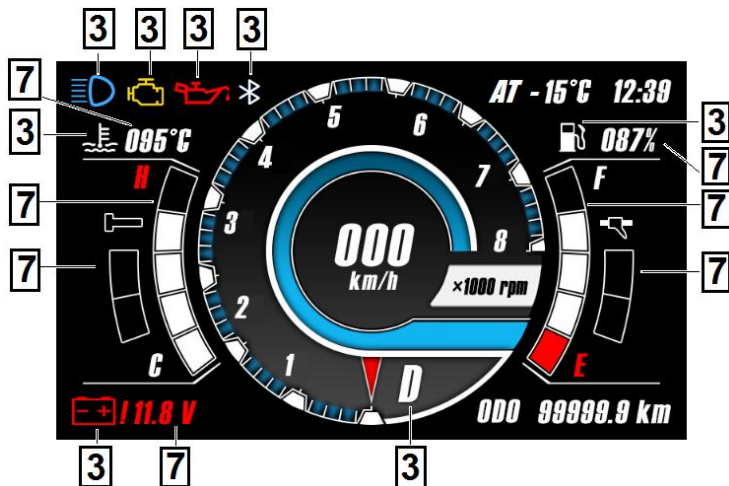

Fig. 20
The white color of the signal indicator (pos.3, Figure 20) indicates that it is inactive.
<p>Fuel level indicator</p> <p>1 - Fuel level classification indicator. 2 - Digital fuel level indicator. Displays the percentage of fuel level.</p> <p>The scale indicator (POS.7, Figure 20) shows the remaining fuel in the tank. If the display shows a split, please refuel the fuel as soon as possible. Operating at very low fuel levels may cause fuel module failure.</p>
<p>Engine coolant temperature indicator</p> <p>1 - Grading indicator of coolant temperature. 2 - Digital current value of coolant temperature.</p> <p>The classification indicator (PO. 7, Figure 20) of coolant temperature (OH) shows the conditional value between the minimum value (C) and the maximum value (H) in the dial.</p> <p>When the engine OH temperature approaches the maximum value, the last red split will be displayed on the classification indicator of the engine OH temperature. When the engine OH temperature reaches the maximum allowable value, a signal indicator (POS. 3, Figure 20) (POS. 10, Table 1) that exceeds the maximum allowable engine OH temperature will be displayed.</p> <p>OH Temperature - Allows you to monitor the temperature status of the engine.</p>
<p>The voltmeter reading allows voltage control of the onboard network.</p> <p>Display the current on-board voltage value beside the signal indicators (pos.3, Figure 20) and (pos.3, Table 1) in this section.</p> <p>When the battery charging system fails or the onboard network voltage drops below the minimum value, the signal indicator will be changed to the corresponding indicator in this section (point 3, Table 1).</p>
<p>The image shows a vertical rectangular display with a pointer at the top pointing to the right. Below the pointer is a vertical bar divided into two cells.</p>	<p>Throttle lever heating element operating status indicator - displays the current operating status of throttle lever heating element.</p> <p>The pointer is on the right side of the display (pos.7, Figure 20).</p> <p>There are three modes:</p> <p>Close. Both cells are black;</p> <p>First mode. A lower cell become white;</p> <p>Second mode. Both cells are displayed in white.</p>
<p>The image shows a vertical rectangular display with a pointer at the top pointing to the left. Below the pointer is a vertical bar divided into two cells.</p>	<p>Driver handle heating element operating mode indicator - displays the current operating mode of the driver handle heating element.</p> <p>The pointer is on the left side of the display (pos.7, Figure 20).</p> <p>There are three modes:</p> <p>Close. Both cells are black;</p> <p>First mode. A lower cell become white;</p> <p>Second mode. Both cells are displayed in white.</p>